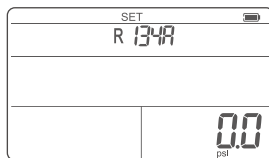

FIG. 8 Pressure Unit Setting Interface
3. Press **MODE** button in the setting interface to set the pressure unit [FIG.8].